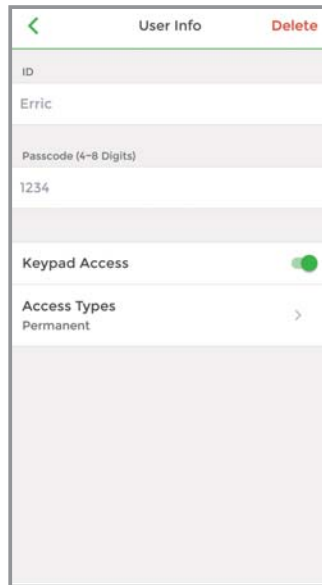

Figure 2
d. Keypad Access : Enable / Disable keypad access for a user. (See Figure 2 below)